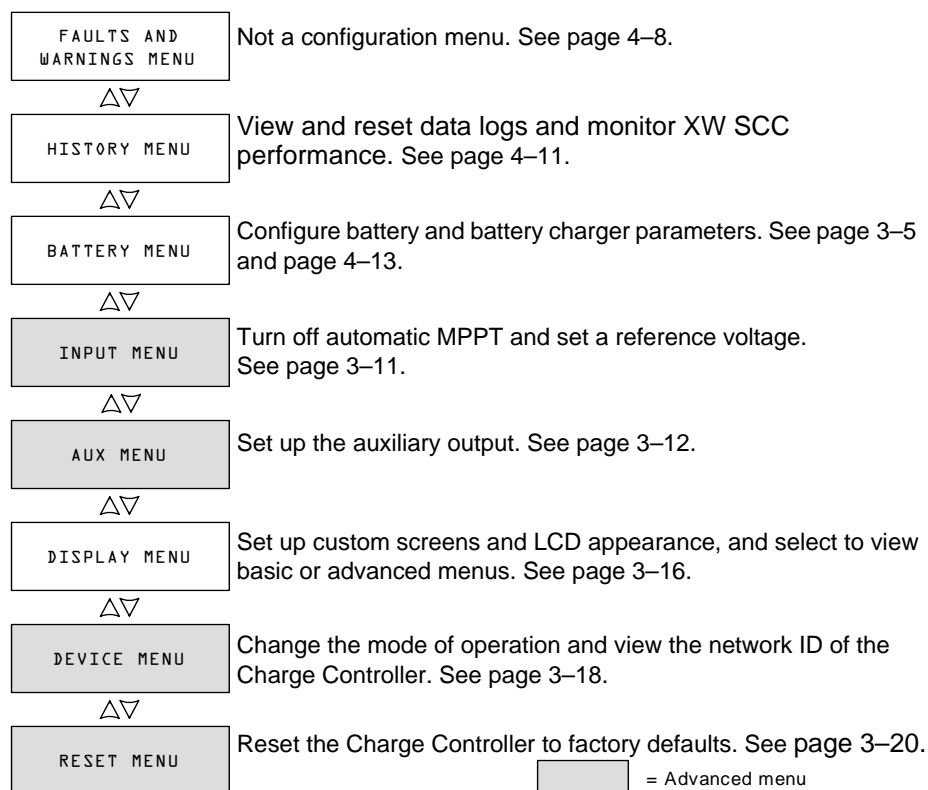
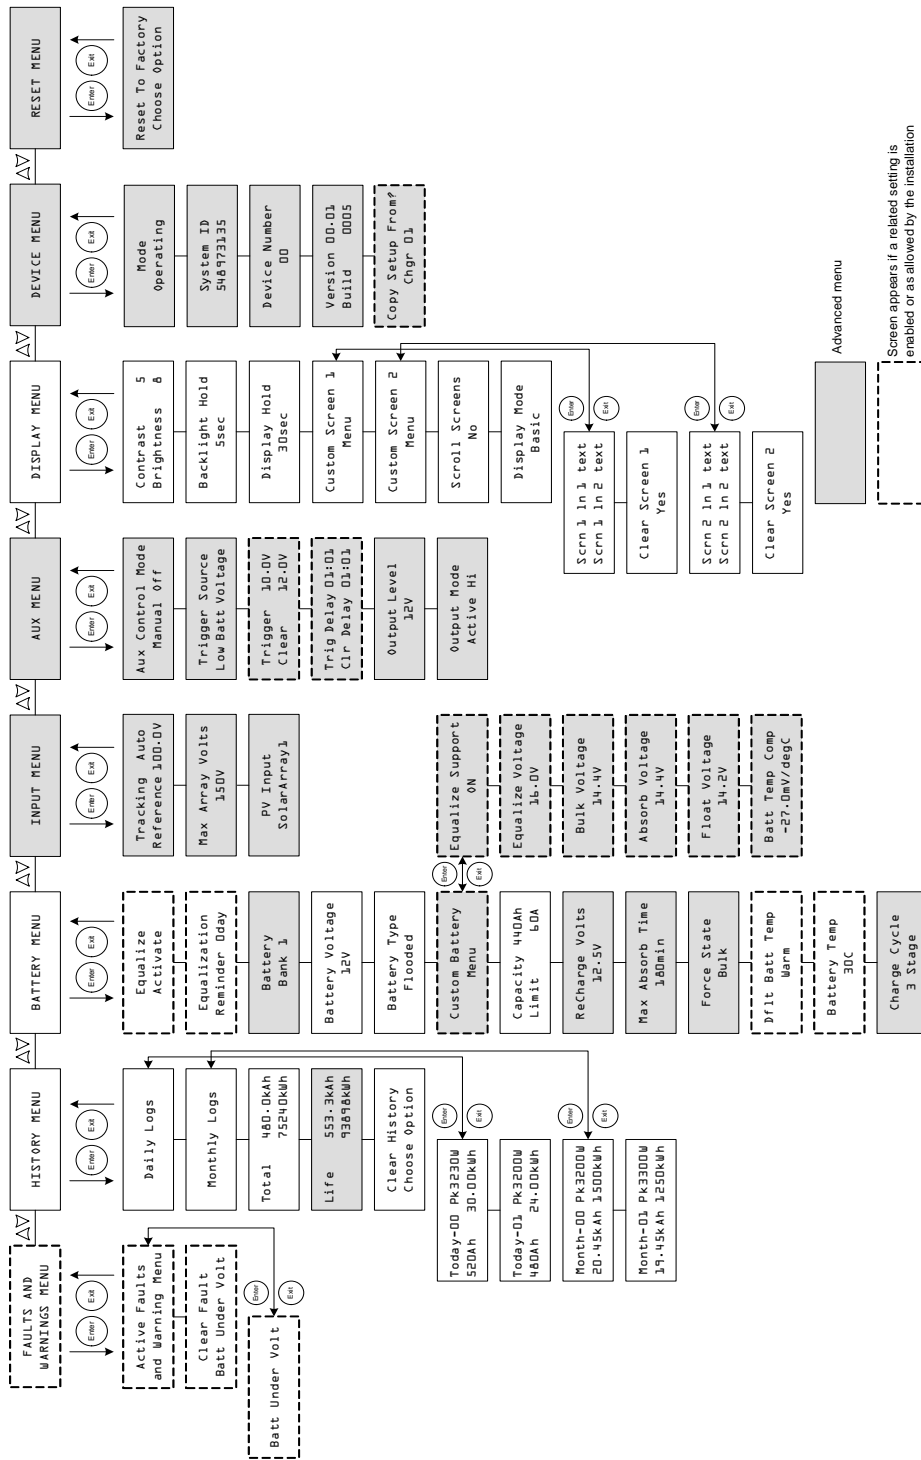

Figure 3-1 Configuration Menu Selection Screens
Figure 3-2 Complete Configuration Menus
**Note:** If you need to check the device number of the unit you previously configured, navigate to the Device Menu and view the Device Number screen. See Figure 3-2, “Complete Configuration Menus” on page 3–4. Note that the entire Device Menu is only visible when the Display Mode is set to Advanced.
The menus for setup and monitoring XW SCC performance are shown in Figure 3-1 and Figure 3-2.